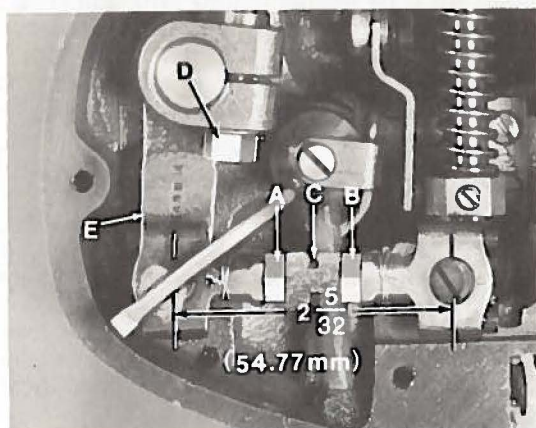

FIGURE 13
The distance between the centerline of the spreader connecting rod ball joints should be $2 \frac{5}{32}$ inches (54.77 mm). Adjustment is made by loosening locknut (A, Fig. 13) (it has a left hand thread) and nut (B). Turn the connecting rod (C) as required. Then retighten both nuts, first nut (B) and then nut (A).
Clearance between the connecting rod ball joint and machine casting must be maintained. To obtain sufficient clearance, loosen nut (D, Fig. 13) and reposition arm (E) as required. Retighten nut (D).